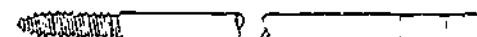

Figure 17-15. Coach-Screw and Machine-Threaded Rod
q) The coach-screw and machine-thread rod shown in Figure 17-15 is available in many diameters and lengths. The machine thread is generally a National Coarse thread. This type of rod is generally used where the end of the coach-screw can be screwed into a wood member of a building and a hanger attached to the other end.